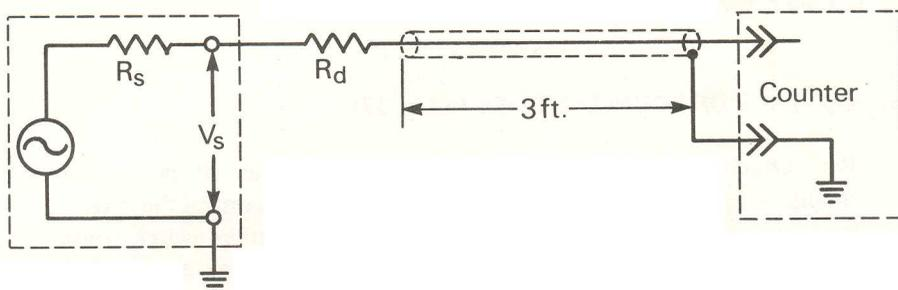
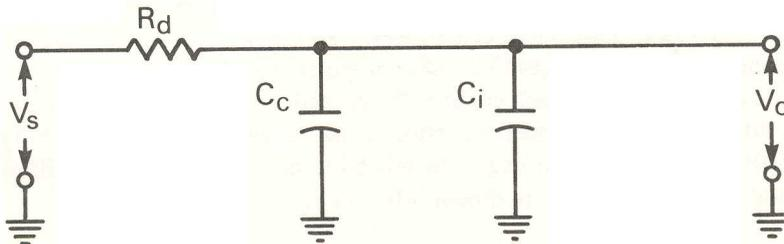

Fig. 15. Use of damping resistor when performing frequency measurements.
Fig. 16. Equivalent circuit.
A. DAMPING RESISTOR CALCULATION (Refer to Fig. 15 and 16)
Fig. 15 illustrates the use of a damping resistor when performing frequency measurements. As shown in Fig. 16, the cable capacitance, C_c , and the counter input capacitance, C_i , form a voltage divider when a damping resistor, R_d , is added in series. In order for the damping resistor to have the optimum damping effect on ringing and overshoot, the value of R_d must be calculated. In order to calculate the value of R_d , the signal amplitude and frequency must be known. However, the frequency is usually unknown before the frequency measurement. Therefore, only the approximate value of R_d can be determined by estimating the source frequency. To maintain a minimum voltage of 30 mV RMS at the counter input (V_o), calculate the value of R_d using the following formula: